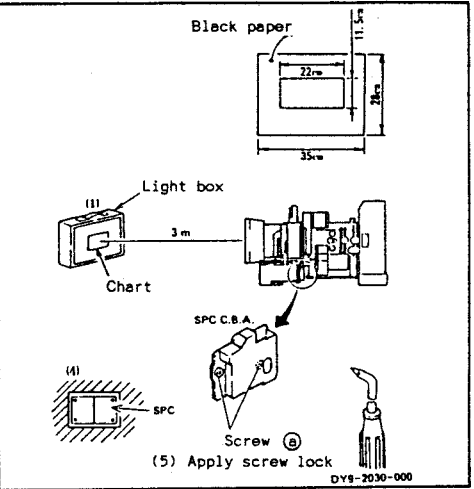

Fig. II-37
* Note: Prepare the chart shown in Fig. II-37.
- (1) Place the adjustment chart on the light box and shoot it three meters from the front lens.
- (2) Align the center of chart image with that of monitor TV, then bring the chart image into focus.
- (3) Loosen two setscrews (a).
- (4) Moves SPC C.B.A. to align with the beam from the light box. At this step, adjust the vertical position mainly. Then, tighten two setscrews (a).
- (5) Apply Screw Lock to two setscrews.